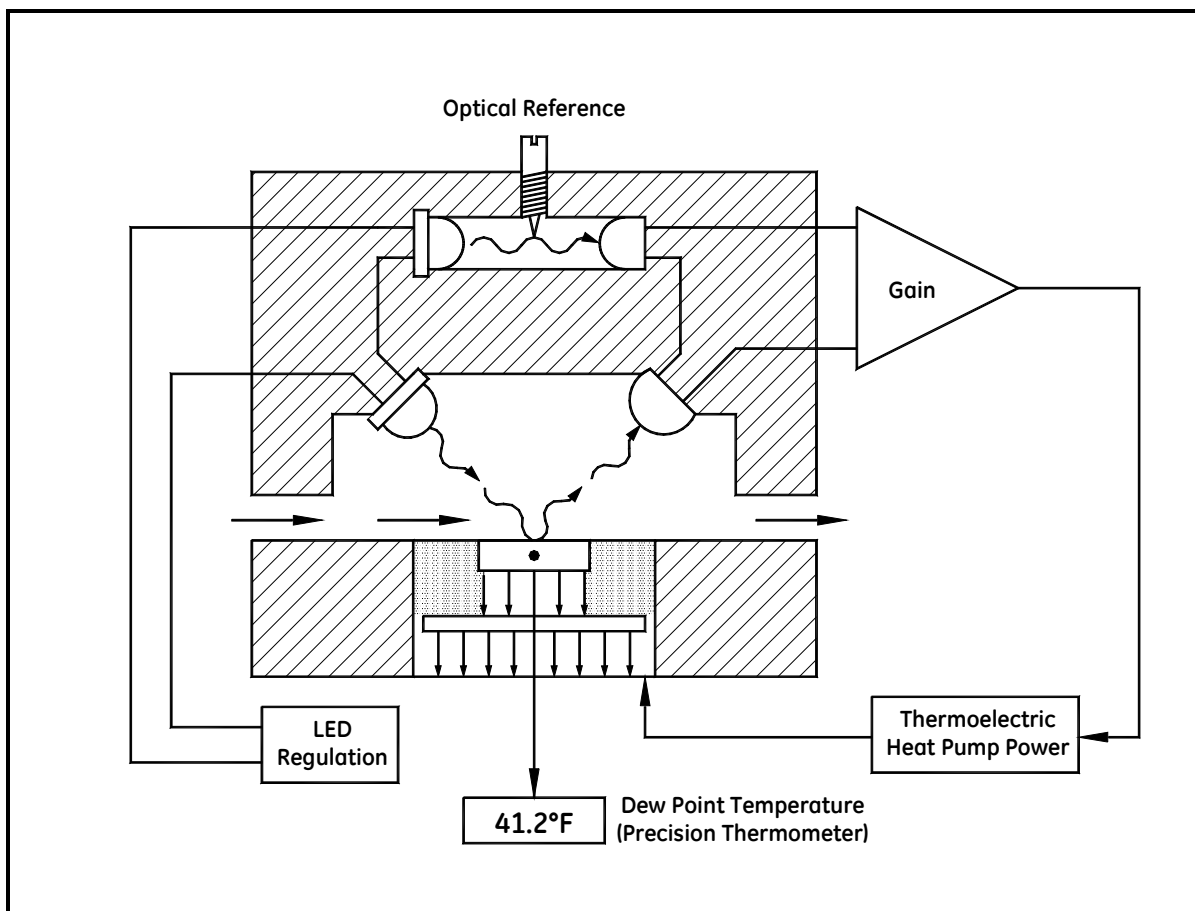

Figure 2: Chilled-Mirror Hygrometer Diagram
Figure 2 on page 5 illustrates how GE Measurement & Control hygrometers detect and measure dew point. The condensate mirror is illuminated with a solid state, infrared emitter (IR). A photodetector monitors the IR light reflected from the mirror. The photodetector is fully illuminated when the mirror is clear of dew, and it receives less light as dew forms. A separate LED and photodetector pair are used as a known reference to compensate for any thermally induced changes in the optical components. The photodetectors are arranged in an electrical bridge circuit, the output current of which is proportional to the light reflected from the mirror. The bridge output controls the electrical current to the thermoelectric cooler.